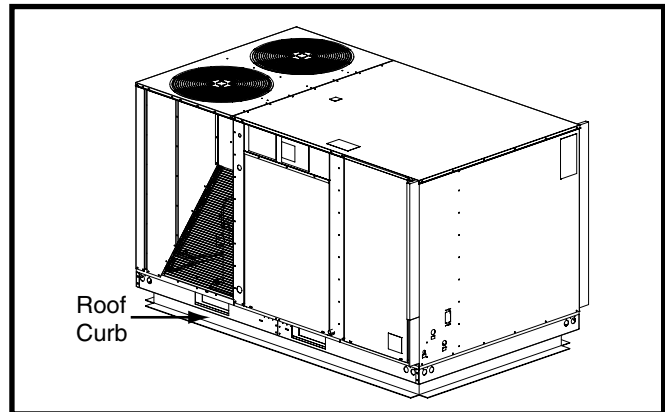

Figure 6. Roof Curb
- The appropriate accessory roof curb (Figure 6) must be installed prior to unit installation. The roof curb must be square and level to ensure proper condensate drainage.